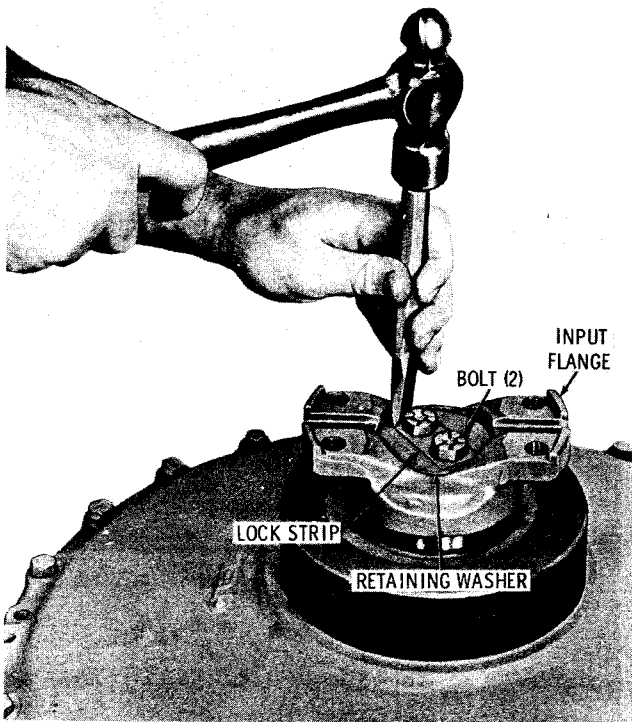

Fig. 5-10. Flattening lock strip which retains input flange bolts
(1) Flatten the lock strip which retains the input flange bolts (fig. 5-10). Remove the bolts, lock strip, retaining washer, and shims (if used) beneath the washer.